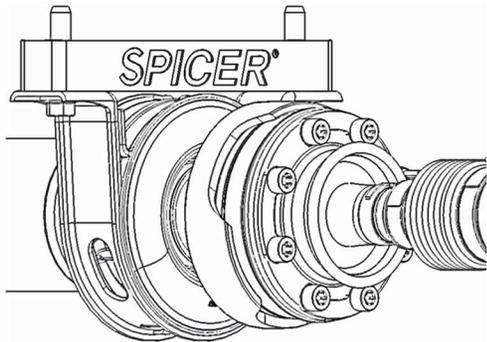

Figure 1
- 3) Refer to supplement instructions supplied with the center bearing drop bracket kit. SPICER® towards rear axle, refer to figure 1 below.